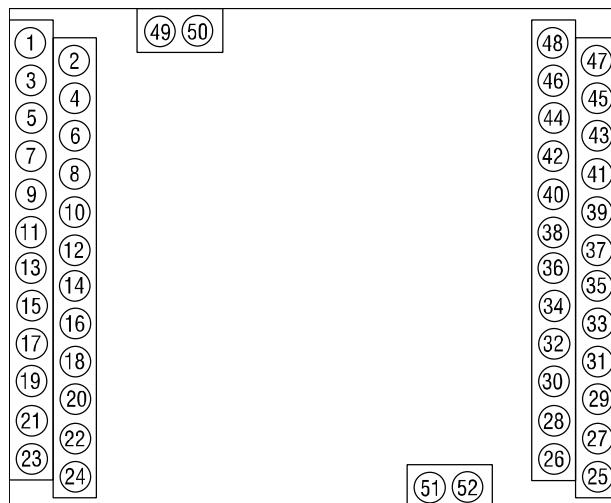

Fig. 4.1 Layout of terminal blocks
- The layout of the terminal blocks is shown in Fig. 4.1 and the terminal assignments in Table 4.1.